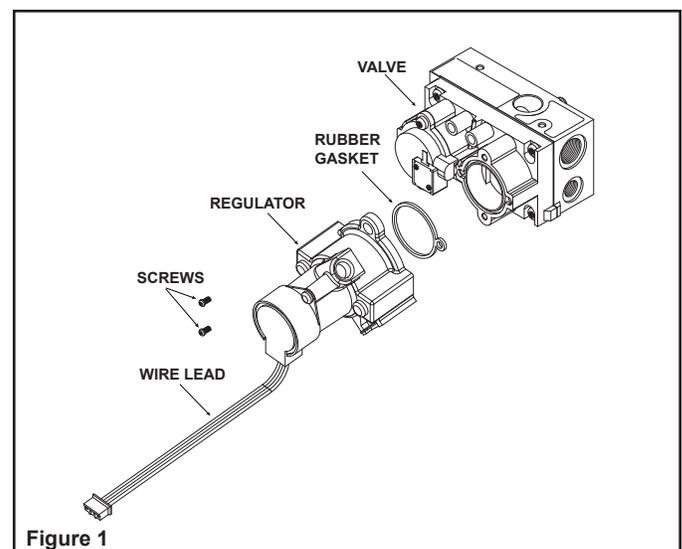
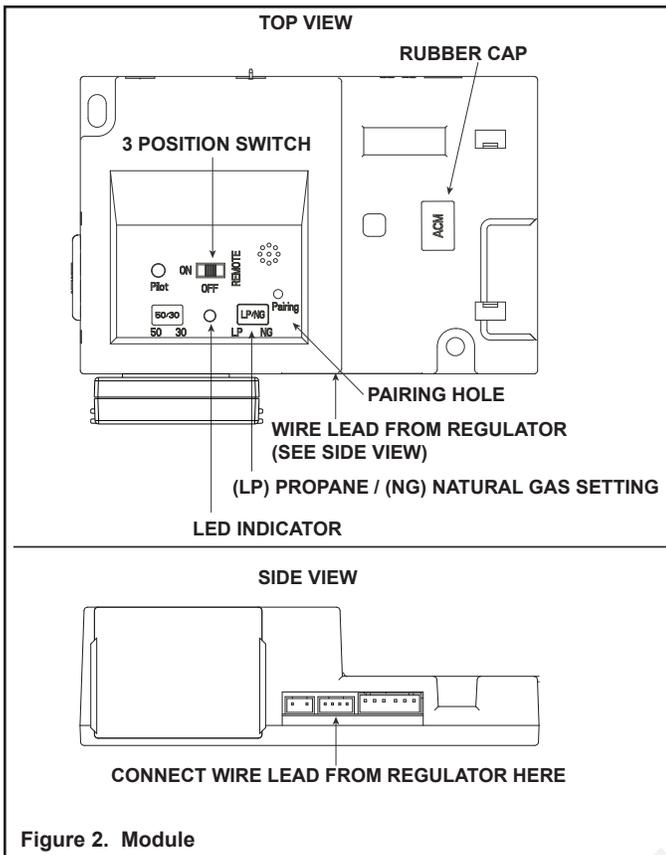

Figure 1
Figure 2. Module
1. Switch control module to OFF mode using selector switch. See Figure 2.
5. Using a #20 tamper-proof Torx, remove the regulator and rubber gasket on face of valve. See Figure 1. Disconnect wire lead from module. See Figure 2. Discard both the regulator and gasket.
6. Install the new regulator with the new rubber gasket and new screws included in the conversion kit. Be sure the gasket is seated properly. See Figure 1. Connect the wire lead from the regulator to the module. See Figure 2.
7. Using a small screwdriver, slide the switch carefully to adjust the setting on the module to the appropriate gas type. See Figure 2.